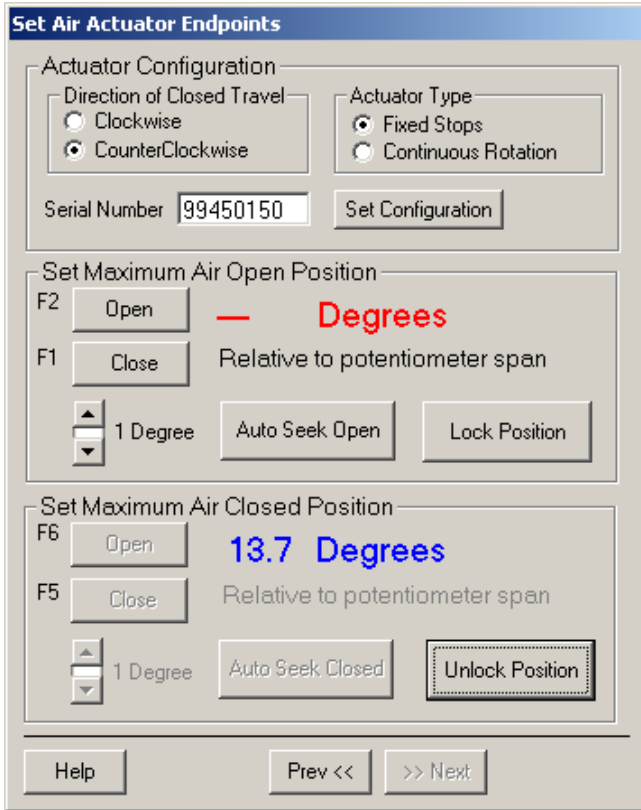

Fig. 10. Move actuator/linkage/damper 2-5 degrees off mechanical closed fixed stop.
6. Move the actuator/linkage/damper two to five degrees off the linkage/damper mechanical closed fixed stop. Lock actuator closed position. See Fig. 10.